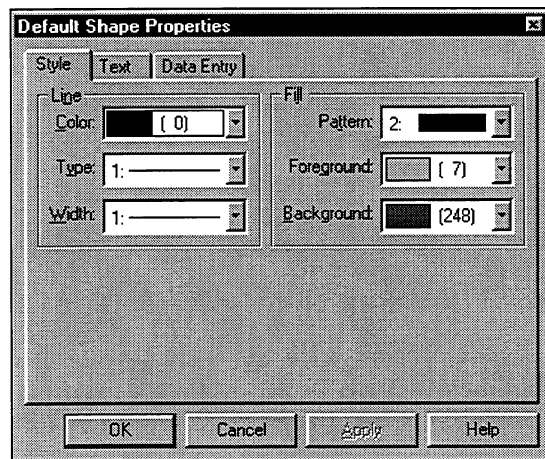

Figure 6-19. Style Properties Page in the Default Shape Properties Form
1. Select the Properties command on the Edit menu, then select the Shape (default) command. The Default Shape Properties form opens, with the Style page displayed, as shown in Figure 6-19.